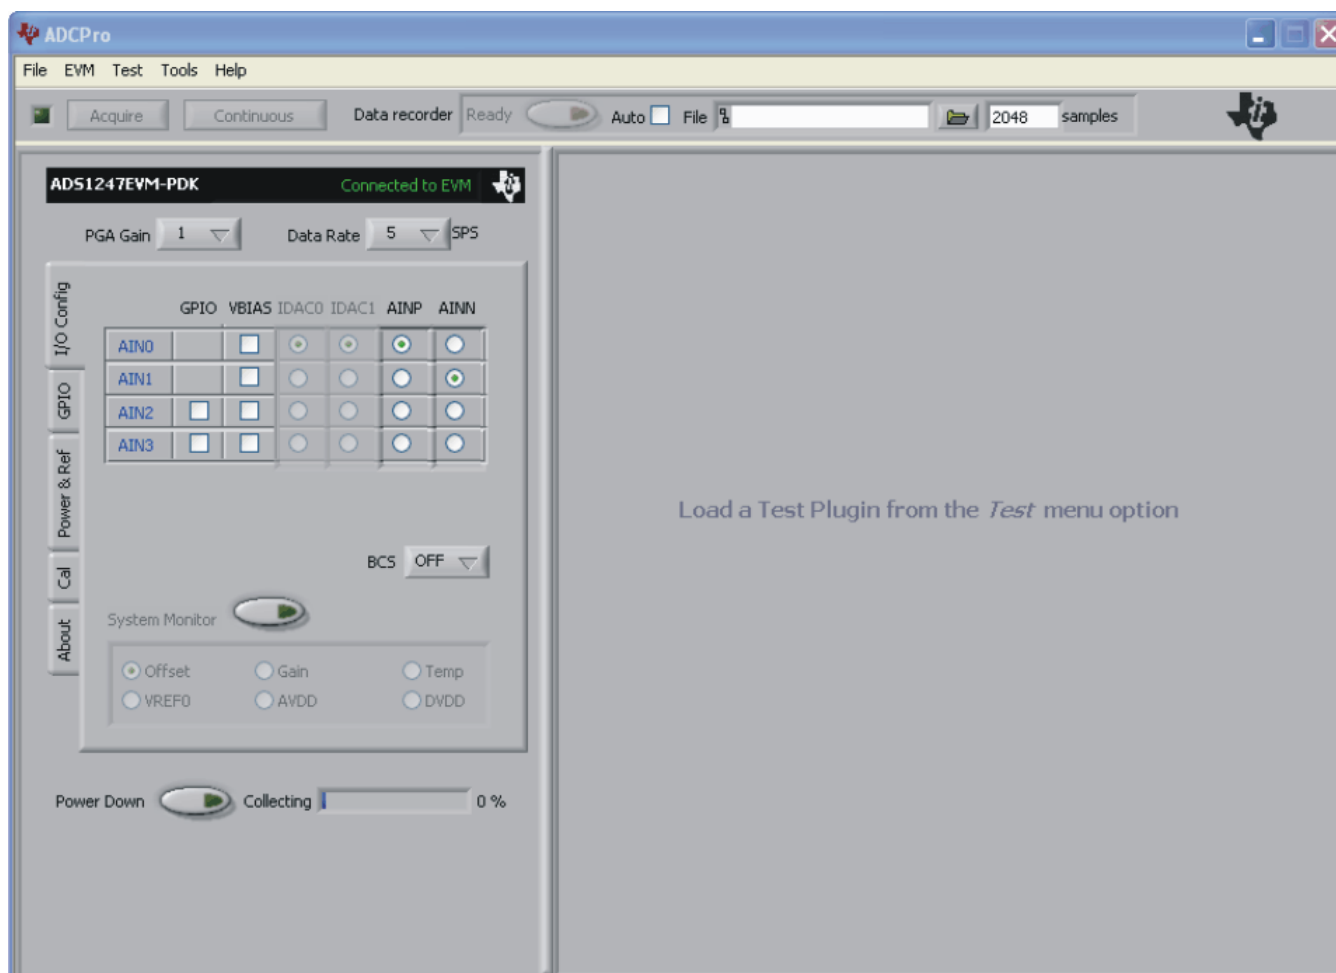

Figure 10. ADS1247EVM-PDK Plug-In Display Window
Step 2. Select ADS1247EVM from the EVM drop-down menu. The ADS1247EVM-PDK plug-in appears in the left pane, as shown in Figure 10.